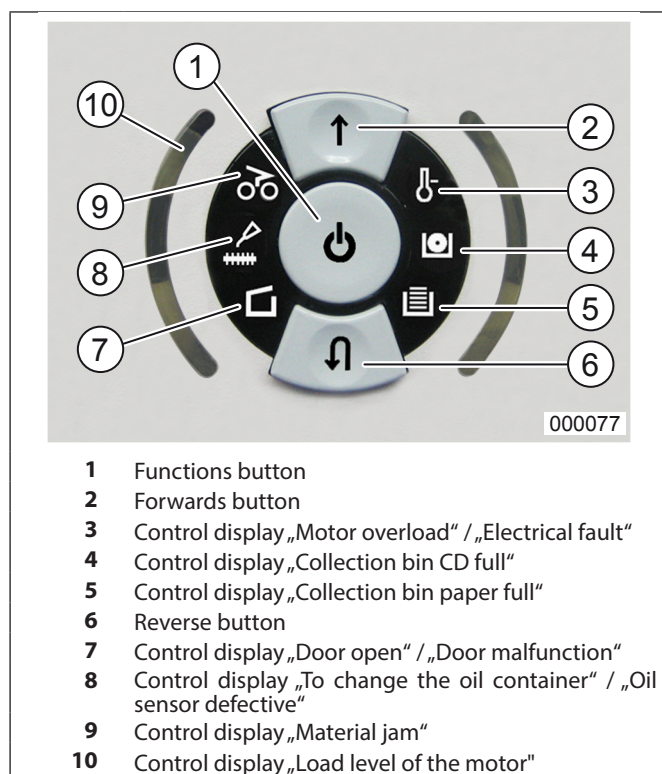

fig.3 Controls „i-control“
① = Functions button (fig. 3/1)
② = Forwards button (fig. 3/2)
③ = Control display (fig. 3/3) „Motor overload“ / „Electrical fault“
④ = Control display (fig. 3/4) „Collection bin CD full“
⑤ = Control display (fig. 3/5) „Collection bin paper full“
⑥ = Reverse button (fig. 3/6)
⑦ = Control display (fig. 3/7)
⑧ = Control display (fig. 3/8)
⑨ = Control display (fig. 3/9)
⑩ = Control display (fig. 3/10) „Load level of the motor“
Press the function button (fig. 3/1) briefly.
The light barriers (forward operation) (fig. 1/3) start the shredding process as soon as material is inserted into either of the feed slots. At the same time the integral forward button (fig. 3/2) LED display  comes on.
For shredding transparent films, the machine must be manually switched to forwards running (press and hold the forwards button (fig. 3/2)).
The shredding process can be stopped at any time by briefly pressing the function (fig. 3/1) or reverse button (fig. 3/6). Press the forward button (fig. 3/2) to continue.